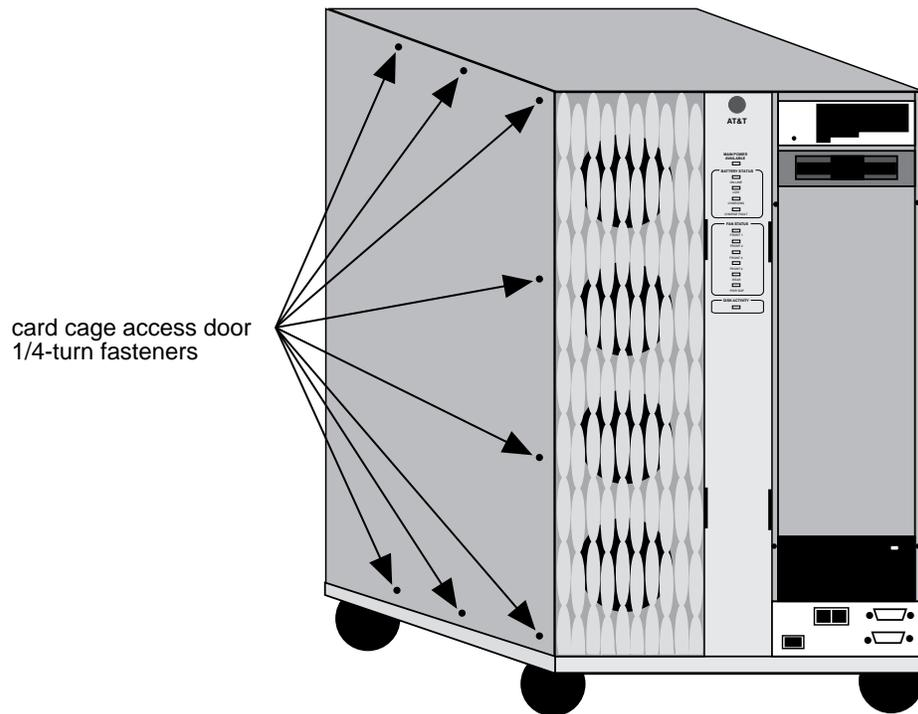

Figure 5-2. Fasteners Around the Card Cage Access Door
2. Loosen the eight 1/4-turn fasteners around the card cage access door (Figure 5-2) and open the door.